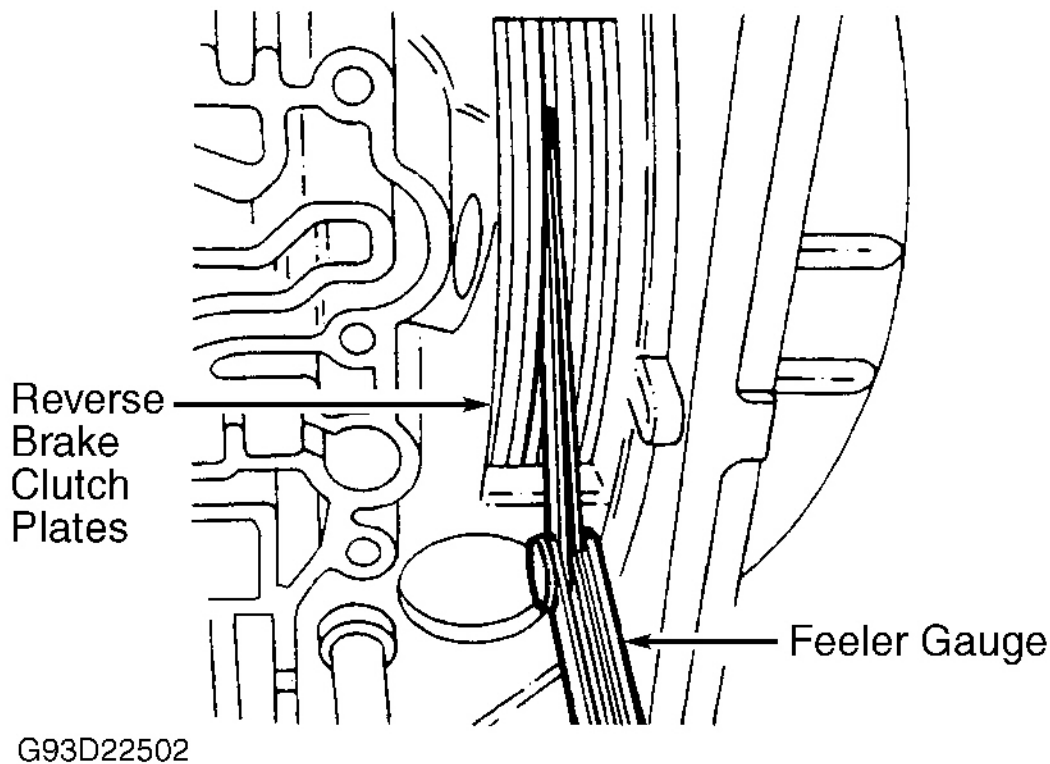

Fig. 69: Checking Reverse Brake Clutch Clearance
3. Using a feeler gauge, check installed reverse brake clutch clearance. See **Fig. 69** . Clearance should be .047-.071" (1.2-1.8 mm). If clearance is not as specified, replace end plate shim. End plate shims are available in thicknesses ranging from .04" (1.0 mm) to .07" (1.9 mm) in .004" (.10 mm) increments.